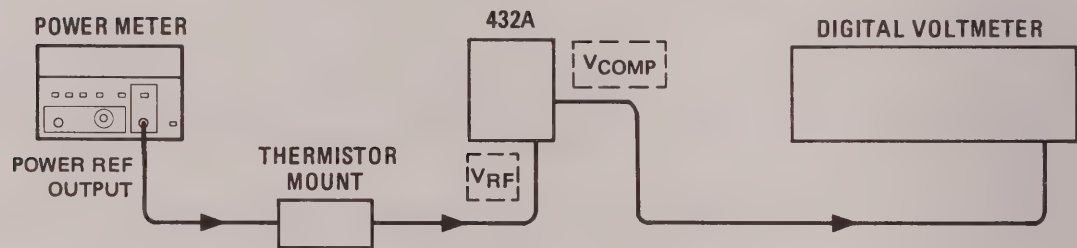

Figure 5-7. Power Reference Oscillator Level Adjustment Setup
2. Round off the DVM indication to two decimal places and record this value as the internal bridge resistance (R) of the 432A (approximately 200 ohms).
3. Connect the 432A to the Power Meter as shown in Figure 5-7.